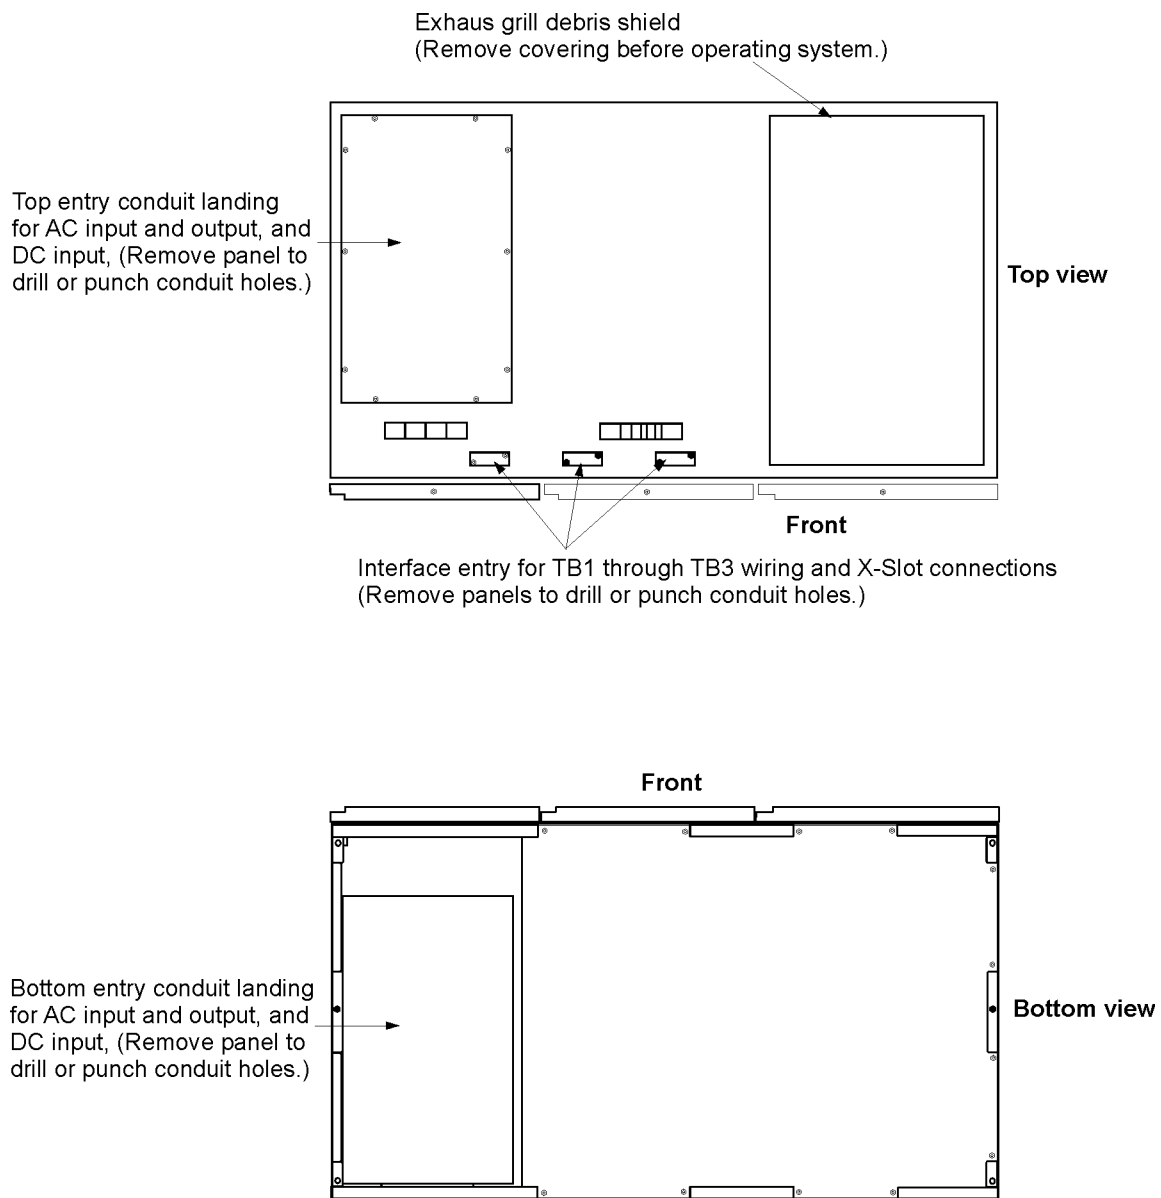
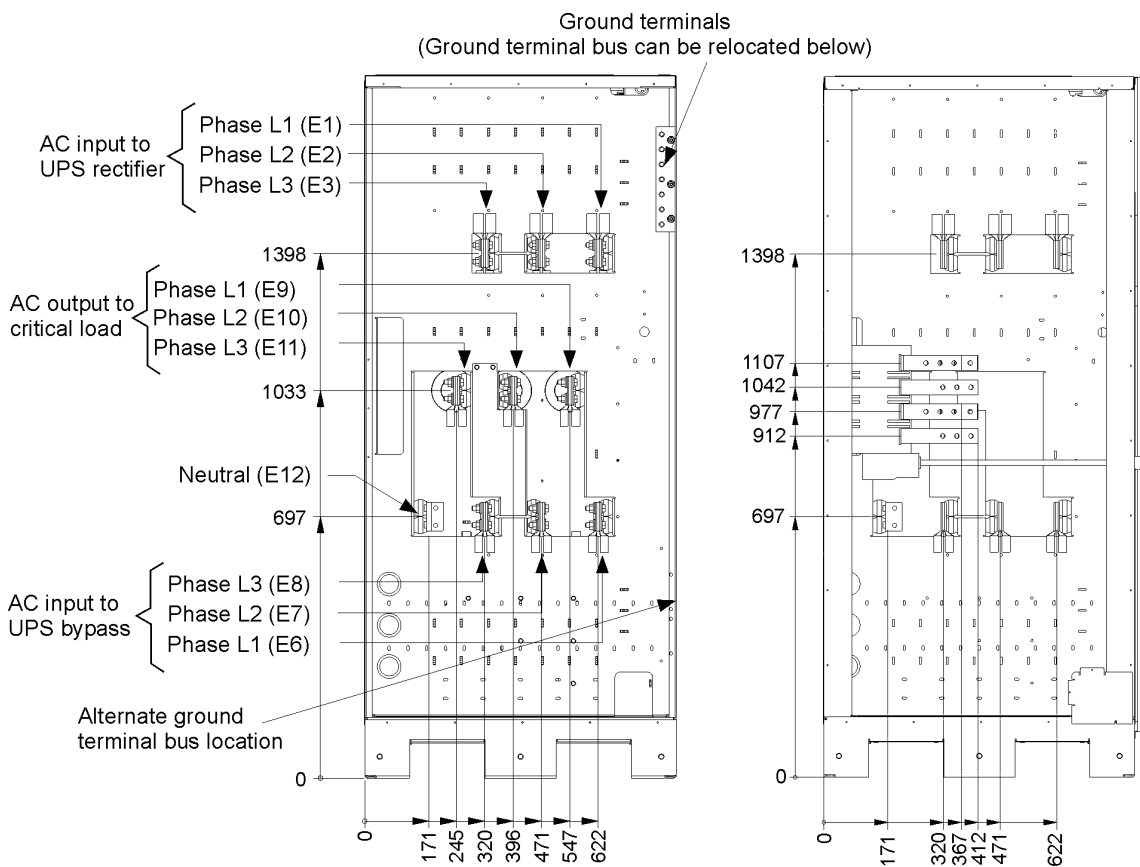

Figure 3-3. Conduit and wire entry locations
Figure 3-5. UPS power terminal detail AA
Remove the UPS cabinet top or bottom conduit landing plate to drill or punch conduit holes (see Figure 3-3).
2. Route the input and output cables through either the top or bottom of the cabinet to the UPS terminals. See Figure 3-3 through Figure 3-5 for wiring access information and terminal locations.
2. Route and connect the battery cables between the UPS and battery cabinets in accordance with the instructions in the Powerware 9395 Integrated Battery Cabinet (Model IBC-L) installation manual. See Figure 3-3 through Figure 3-5 for wiring access information and terminal locations.
5. Route and connect the battery cables between the UPS and the battery system. See Figure 3-3 through Figure 3-5 for wiring access information and terminal locations.
5. Remove the UPS cabinet top interface entry plates to drill or punch holes (see Figure 3-3 on page 26).
10. Remove the UPS cabinet interface entry plates to drill or punch holes (see Figure 3-3 on page 26).